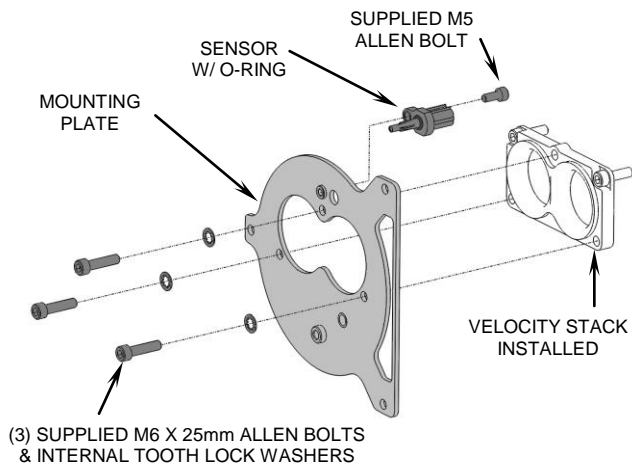

FIGURE 3
3. Once the air box has been removed, unscrew the air temperature sensor and install it into the supplied mounting plate using the supplied M5 bolt, refer to Figure 3. **NOTE:** Make sure the small stock o-ring around the sensor is still intact.
- Position the mounting plate over the velocity stack (with the welded tube toward inside) and secure using (3) supplied M6 x 25mm buttonhead bolts and (3) internal tooth lock washers, finger tighten only, Figure 3.